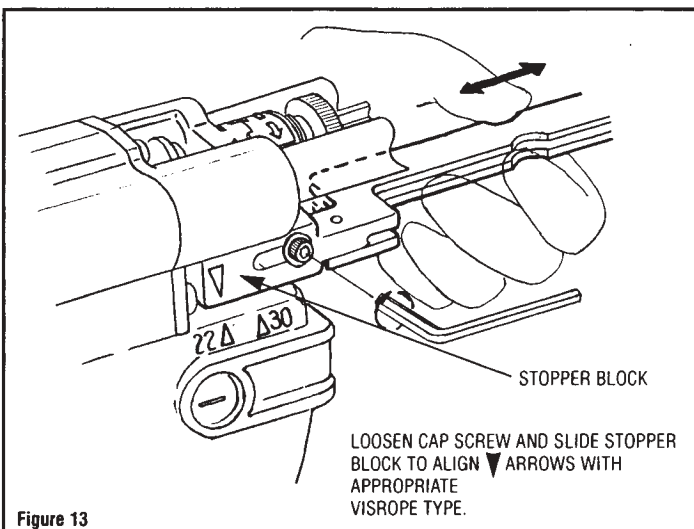

Figure 13
**(h) Stopper Block Adjustment** - Depending upon whether 22mm or 30mm collated screws are being driven, the stopper block needs to be adjusted accordingly. To adjust the stopper block, loosen the cap screw under the extension block on the right hand side of the tool. Slide the stopper block fully forward for 30mm collation or fully backward for 22mm collation. See figure 13. **CAUTION:** Removing the cap screw completely will allow the head of the tool to eject from the motor. Take care not to remove this screw fully when making the stopper block adjustment.